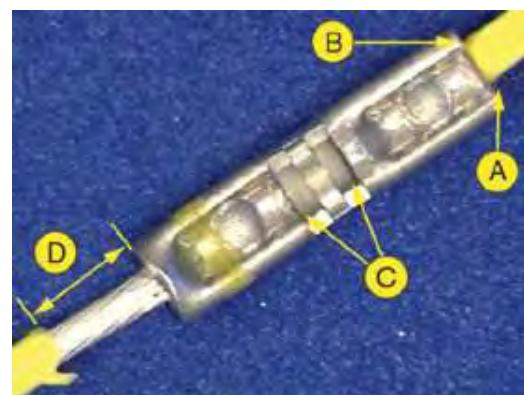

Figure 201
- Crimp indent is not off the end of the splice (see Item B of Figure 201).
- Wire end(s) are visible through the inspection window(s) (see Item C of Figure 201).
- Wire insulation gap is not greater than 2 wire diameters including insulation (see Item D of Figure 201).